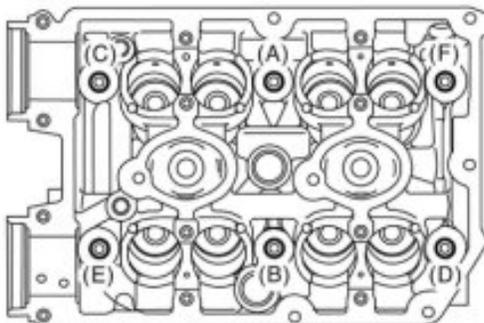

Figure 2: DOHC Head Bolt Torque Sequence
3. Tighten all bolts to 29.5 ft/lbs (40 Nm) in alphabetical order as shown in Figure 2.
11. Tighten bolts (A) and (B) further by 40-45°. Do not exceed 45°